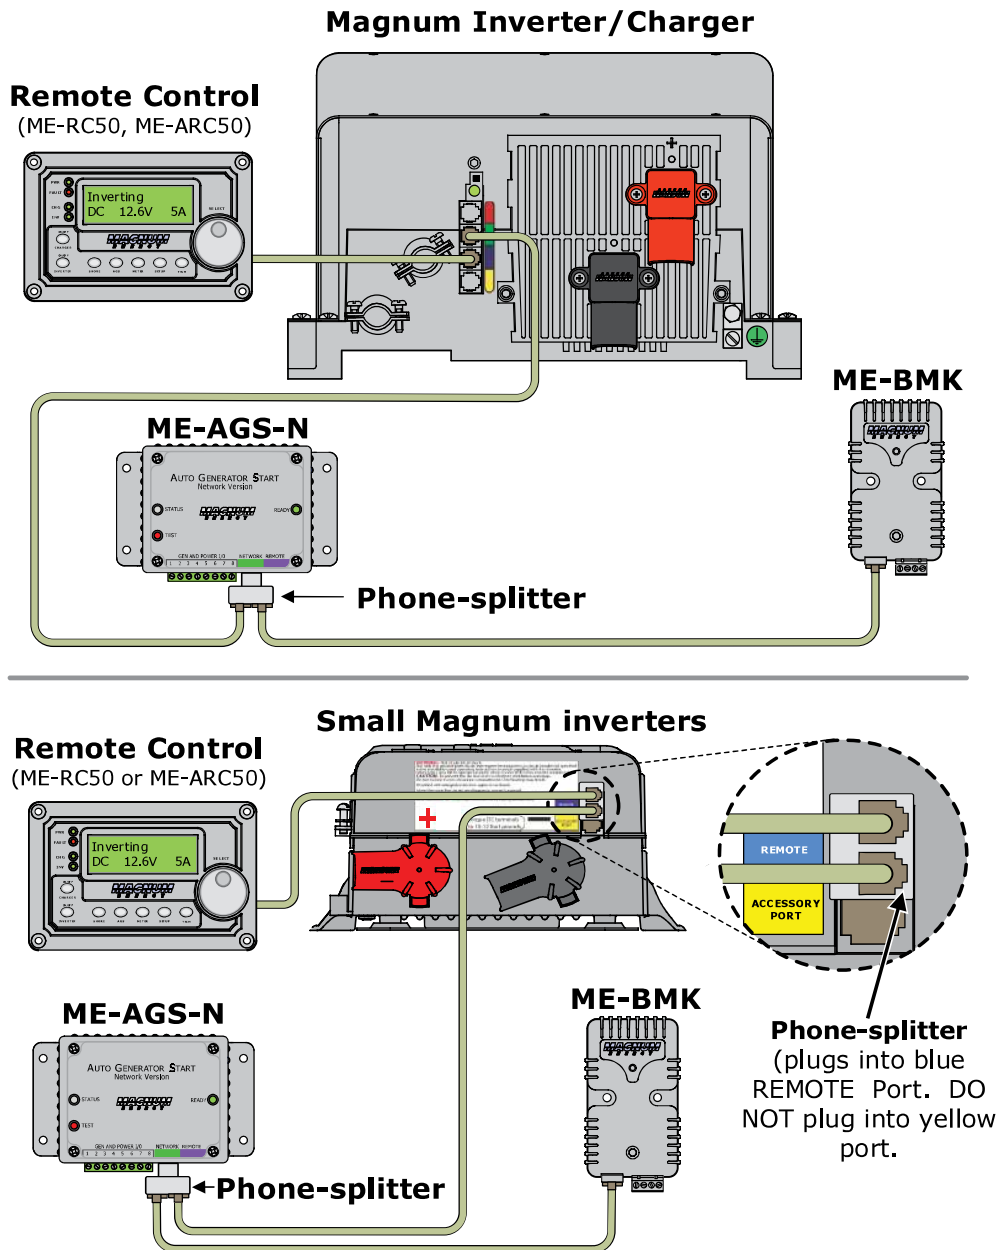

Figure 2-5, Multiple Network Devices – Daisy Chain Configuration
- **Daisy Chain Configuration** – In this arrangement, the network devices are linked in a series (see Figure 2-5). If using this configuration, the first device connected to the inverter's network port* must be the ME-AGS-N, followed by the ME-BMK.